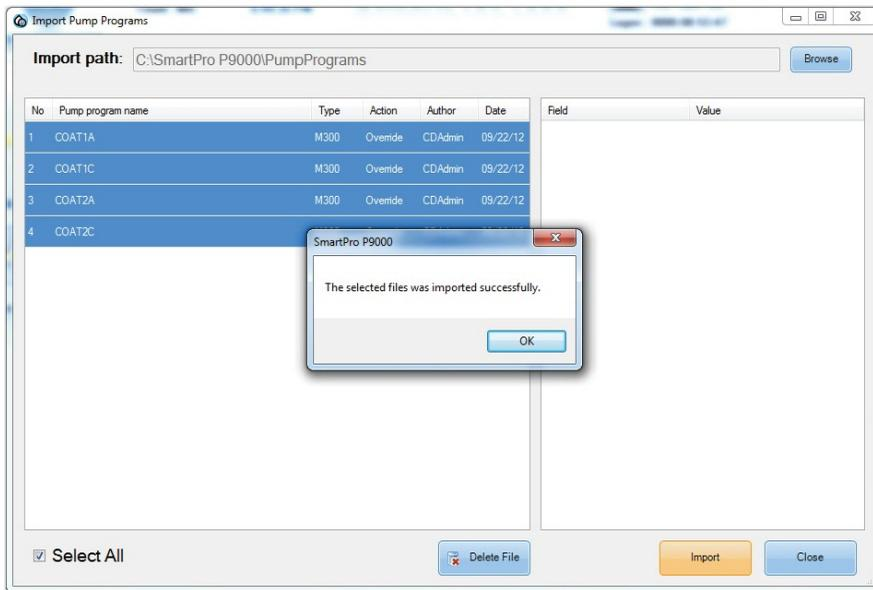

FIGURE 3-14: Importing pump programs
3. On the Pumps page, click **Import**. The Import Pump Programs dialog box opens. See Figure 3-14.